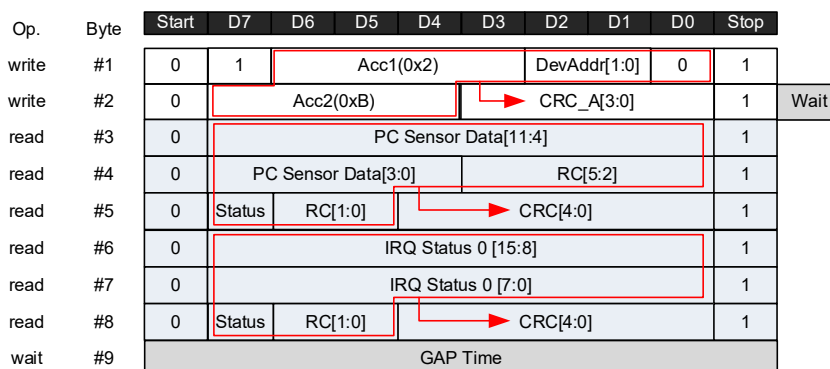

Figure 47. UART fast read mode example with different access codes
- Fast read mode of two registers within one frame with 12, 14, or 16 bits of data per register (Figure 47)
The frame structure can be seen in Figure 47, an example of reading 12-bit primary coil sensor data (Acc1 = 0x2) and 16-bit IRQ status 0 (Acc2 = 0xB), the frame bitfield are described in the list below: